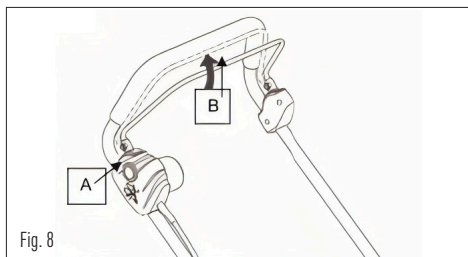

Fig. 8
(1) Interruptor On/Off (Fig. 8).